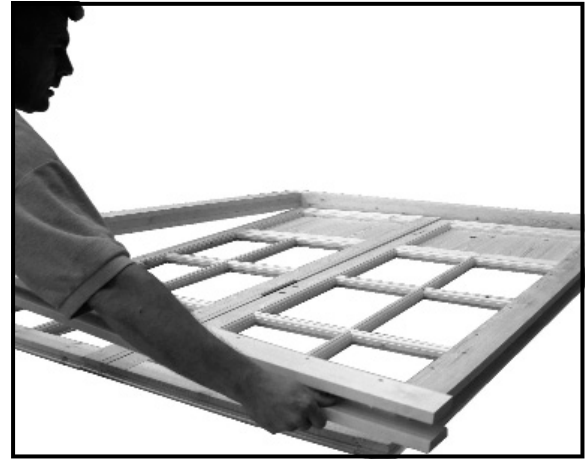

Fig 14
- 2 Lay the outer frame in position (fig 14).
7 Close the hinges and lay the frame assembly over the doors (fig 14).